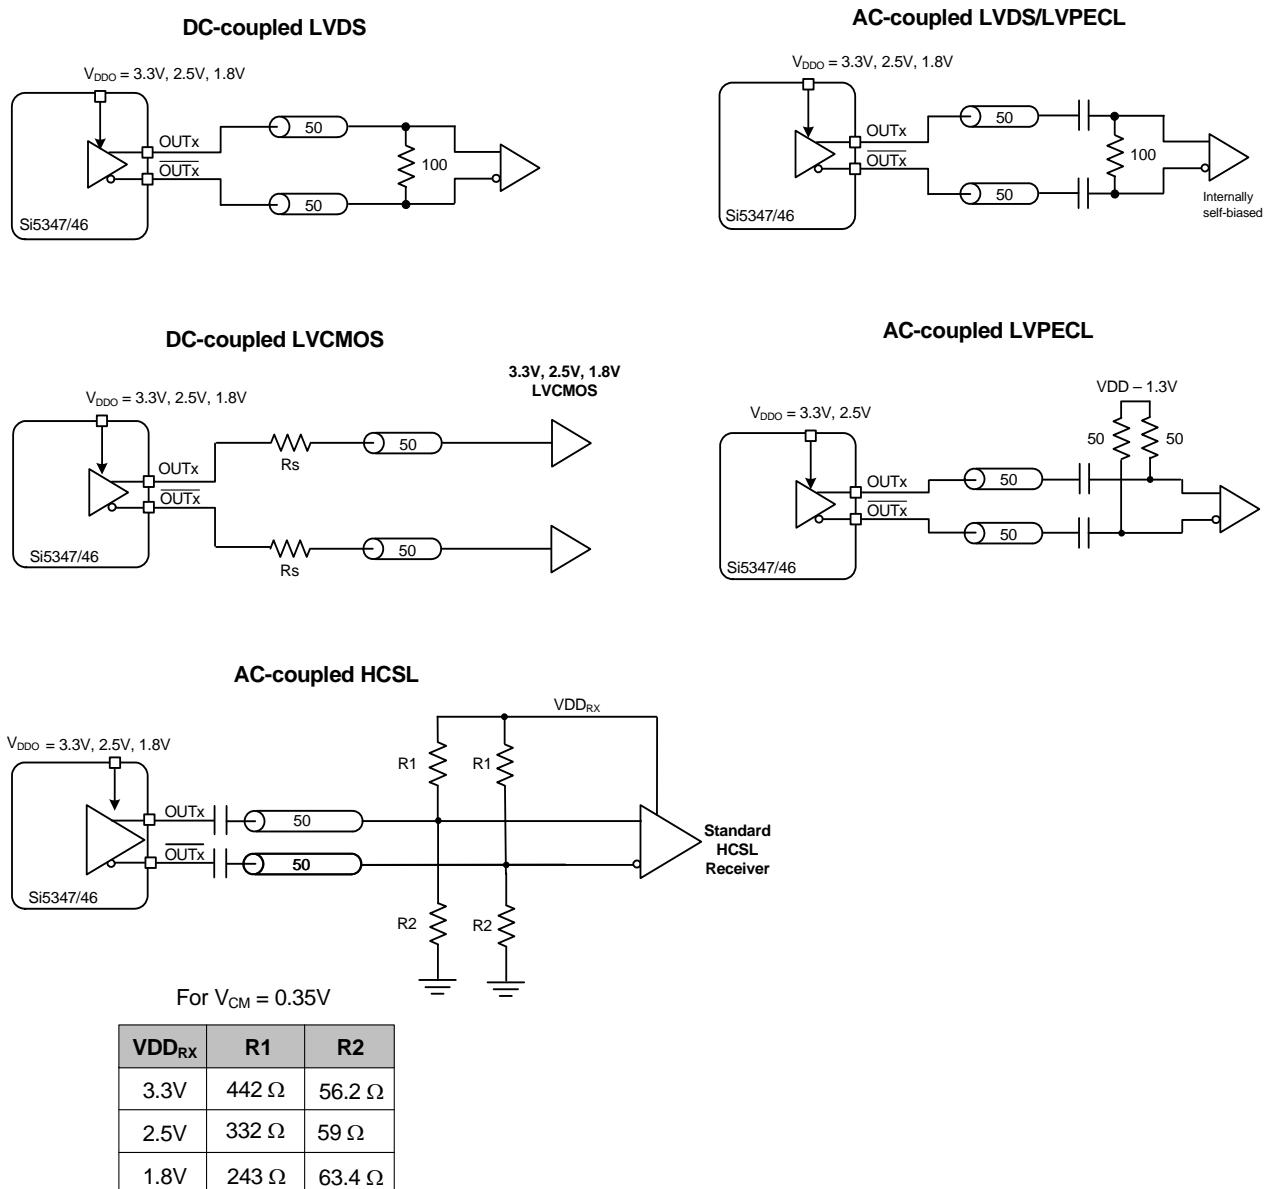

Figure 25. Supported Differential Output Terminations
The differential output drivers support both ac-coupled and dc-coupled terminations as shown in Figure 25.
- **Differential Normal Mode:** When an output driver is configured in normal amplitude mode, its output amplitude is selectable as one of 8 settings ranging from 130 mVpp_se to 920 mVpp_se in increments of 100 mV. The output impedance in the normal mode is 100 Ω differential. Any of the ac-coupled terminations shown in Figure 25 are supported in this mode.
- **Differential Low Power Mode:** When an output driver is configured in low power mode, its output amplitude is configurable as one of 8 settings ranging from 200 mVpp_se to 1600 mVpp_se in increments of 200 mV. The output driver is in high impedance mode and supports standard 50 Ω PCB traces. Any of the ac-coupling terminations shown in Figure 25 are supported in this mode.